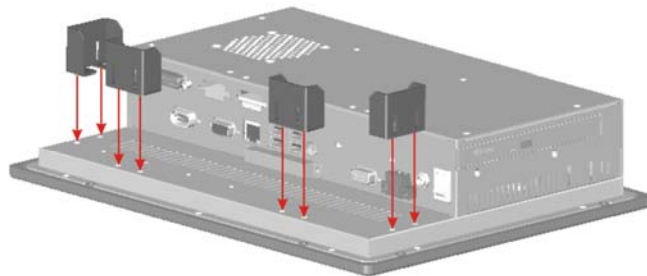

Figure 3-30: Panel Mounting Kit
Step 1: Install the panel mounting kit onto the real panel (**Figure 3-30**).